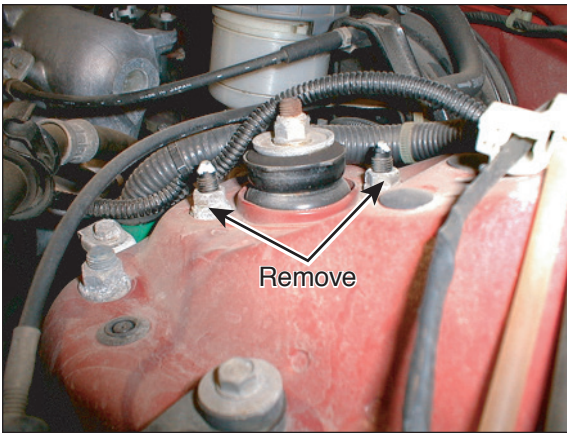

Figure 1
1. Remove the two mounting nuts on the top of the strut. These are located on the inside of the engine compartment above the spring pocket (Figure 1).